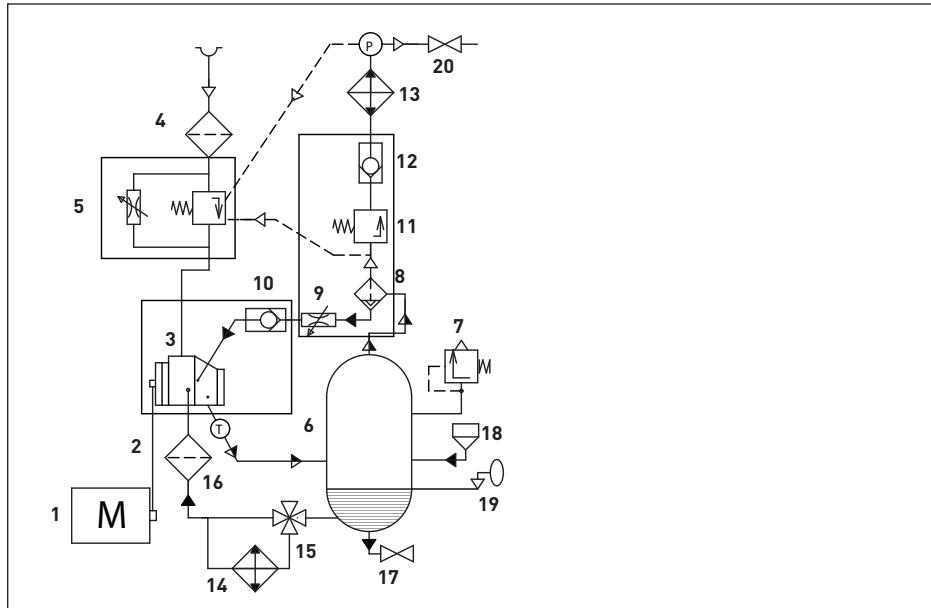
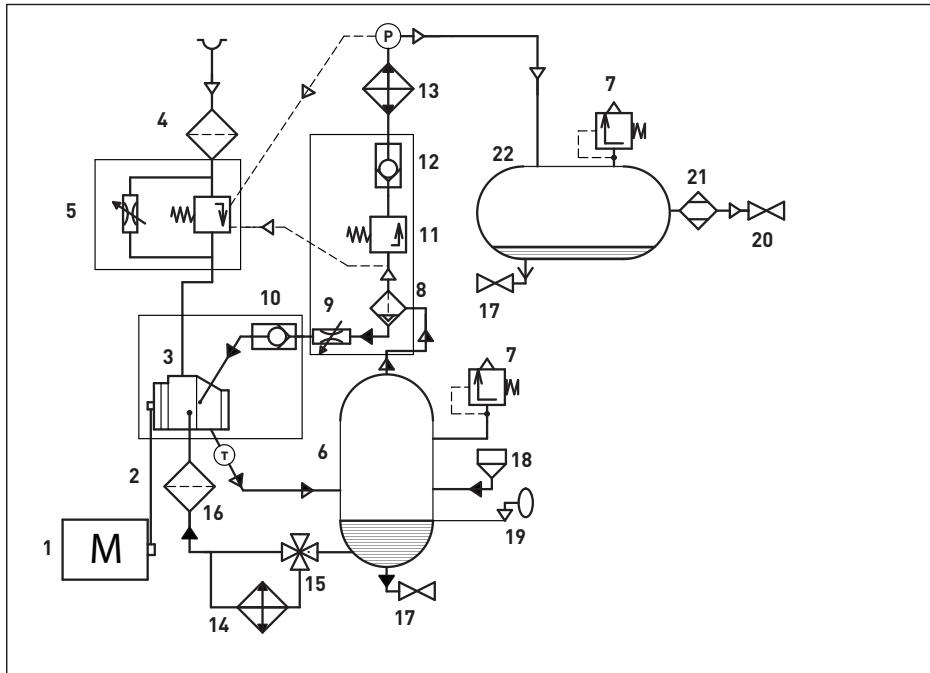

Fig. 2.3.1 Function diagram A/F..
Fig. 2.3.2 Function diagram AR/FR.. ,ARD/FRD..
2.4 Functional description (see Fig. 2.3.1 and Fig. 2.3.2)